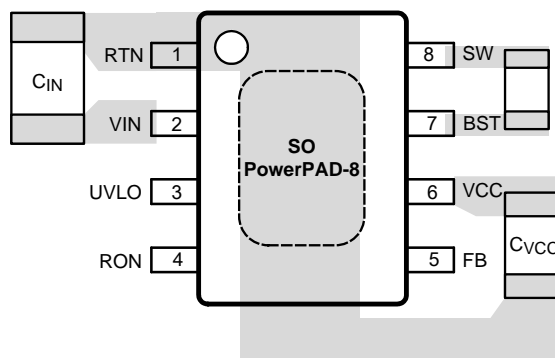

Figure 12. Placement of Bypass Capacitors
1. C_{IN} : The loop consisting of input capacitor (C_{IN}), V_{IN} pin, and RTN pin carries switching currents. Therefore the input capacitor should be placed close to the IC, directly across V_{IN} and RTN pins and the connections to these two pins should be direct to minimize the loop area. In general it is not possible to accommodate all of input capacitance near the IC. A good practice is to use a $0.1\mu\text{F}$ or $0.47\mu\text{F}$ capacitor directly across the V_{IN} and RTN pins close to the IC, and the remaining bulk capacitor as close as possible (Refer to Figure 12 Placement of Bypass Capacitors).
2. C_{VCC} and C_{BST} : The V_{CC} and bootstrap (BST) bypass capacitors supply switching currents to the high and low side gate drivers. These two capacitors should also be placed as close to the IC as possible, and the connecting trace lengths and loop area should be minimized (See Figure 12 Placement of Bypass Capacitors).